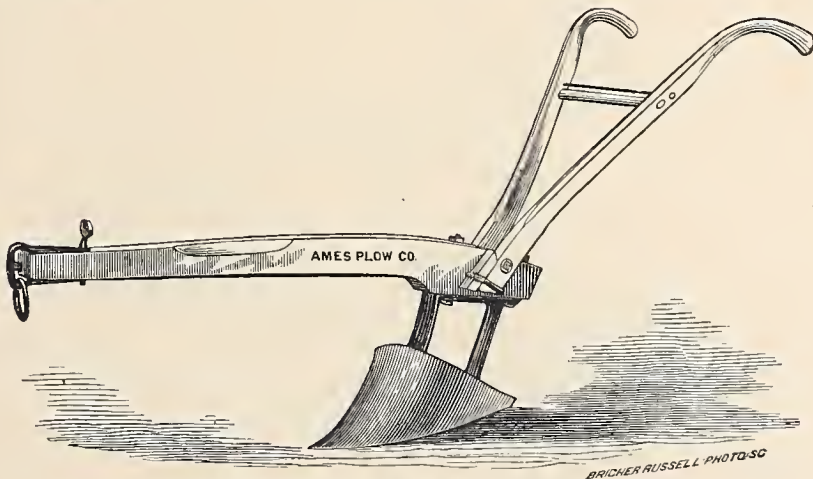

Fig. 369. — Steel-Mould Cotton-Sweep.
*The Steel Mould Cotton-Sweep*, represented by *Fig. 369*, has a large demand in many markets, and is used in the cultivation of various crops. It is made